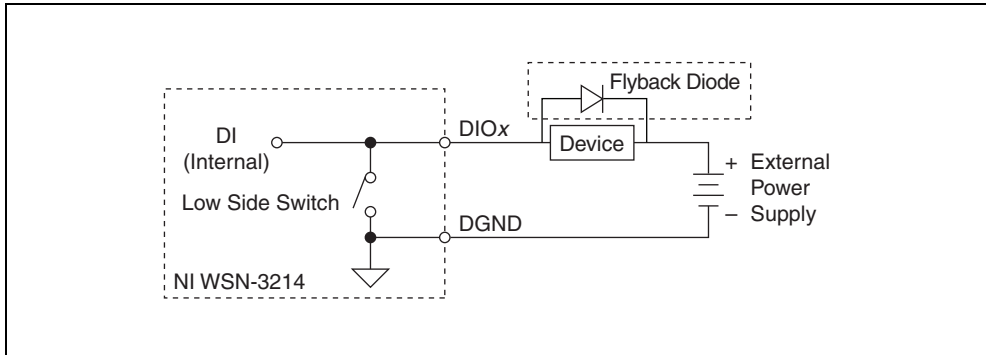

Figure 31. Connecting a Device to the NI WSN-3214 in Drive Low (Sinking) Mode
- The channel is high impedance when the channel is turned off (1).
- When driving inductive loads, use an external flyback diode or snubber circuit, as shown in Figure 31.